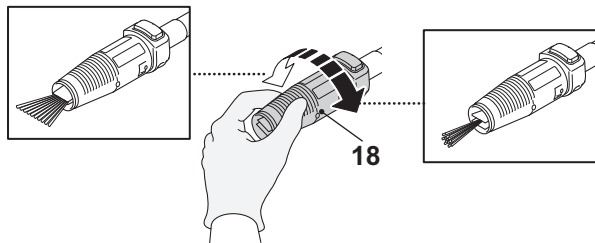

Fig. 10
- > Turn the vario nozzle to adjust the water jet according to the surface to be cleaned (Fig. 10).